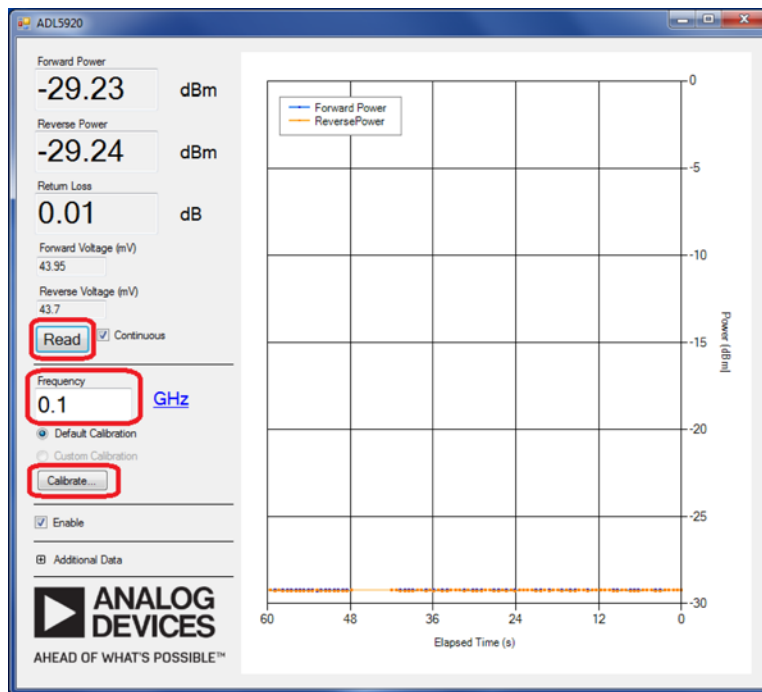

Figure 2. QuikEval GUI Window
A PC is required to run the QuikEval software. After the DC2847A-KIT is plugged into the PC with a USB cable, the QuikEval software opens and runs the GUI, as shown in Figure 2.
4. Connect the signal generator to RFIN (J1) on the DC2847A-KIT. Set the signal generator frequency between 9 kHz to 7 GHz. Set the signal generator power to 0 dBm to begin measurements. See Figure 2 for GUI usage details.
2. Use the GUI window that opens and click **Read** to measure the forward and reverse rms power with the default calibration shown in Figure 2.